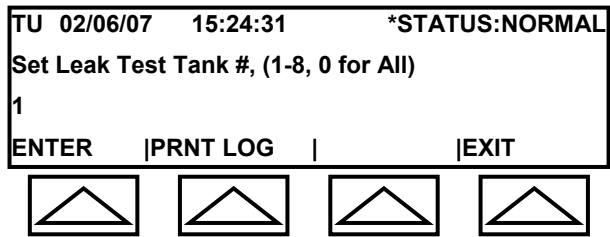

Fig. 3-20a: VLD Submenu
The VLD Submenu is entered from Screen #3 of the MAIN Menu. It allows you to select a tank and start or stop the volumetric leak detection test (on-demand VLD testing). It also provides a PRNT LOG field (see Figure 3-20a) that can print out the VLD Log Data containing the last 32 reports. VLD testing is performed only on tanks with magnetostrictive probes.
1. Select VLD in Screen #3 of the MAIN Menu. The VLD Submenu is displayed (see Figure 3-20a).